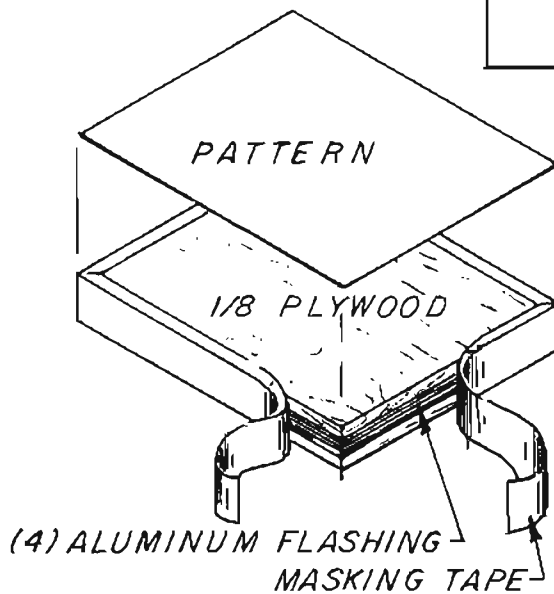

FIGURE 12
Step 3 Tape all four edges using $\frac{3}{4}$ "-wide masking tape (see figure 12). Attach the pattern to the top piece of plywood.